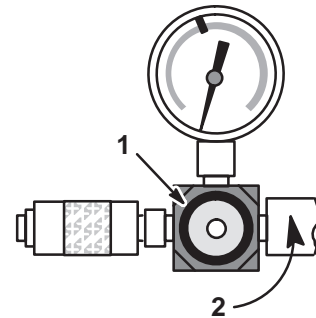

Fig. 48 – Pre-Setting Regulator
6. Pull regulator lock nut out and turn adjustment knob counterclockwise as far as it will go, Fig. 48.